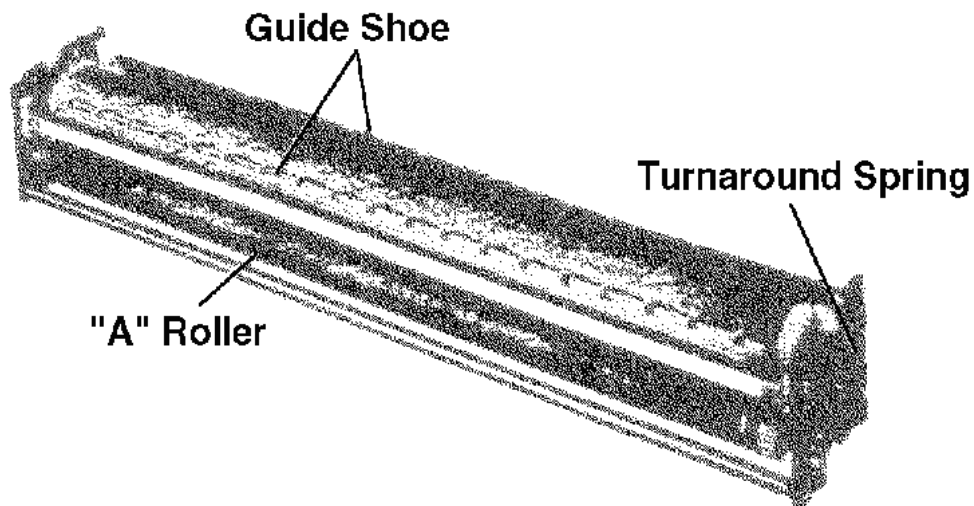

Figure 2-13. Turnaround assembly.
- (1) Clean the roller. You must keep all rollers clean.
- (2) Check the springs. Check the turnaround springs for proper tension. Rollers should not apply undue pressure on the film. Refer to figure 2-13.